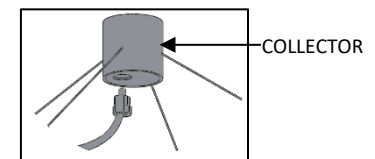
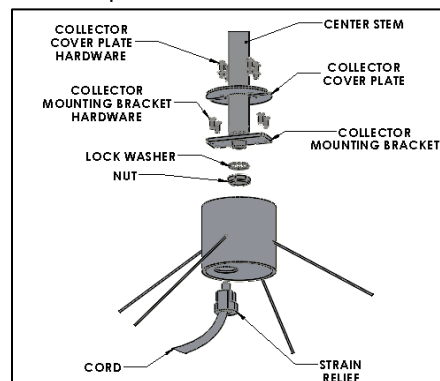

FIG. 13 – CORD INSTALLATION
FIG. 15 – FIXTURE WIRING
8. Feed the power cord through the bottom hole in the collector as shown in FIG.13. Make wire connections inside the collector between the cord and building supply wires in the center stem. In accordance with all local, state and national codes. Make sure to attach all green grounding wires to main building ground. Place strain relief around the cord and install it in the collector as shown in FIG. 13. Install the collector cover plates to the collector with the provided hardware as shown in FIG. 15.